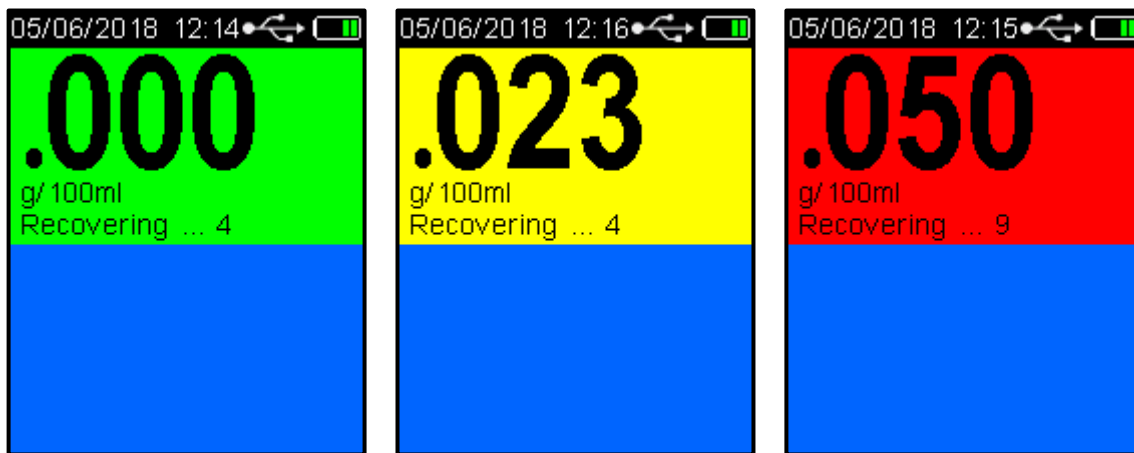

Figure 13 - Various BAC and Screen Colours Displayed
The screen colour will vary depending on the percentage of alcohol present; green for zero to 0.019g/100ml, orange for 0.020g/100ml to 0.049 g/100ml, g/210L and red for readings greater than 0.050 g/100ml, g/210L. The *Recovering* period is indicated by Recovering shown on the display (Refer to Figure 13)
- With the screen displaying press to test, Press the Up and Down buttons simultaneously. The User Menu will be displayed (Refer to Figure 13).